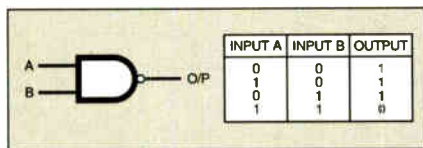

Fig.1.4. NAND gate truth table
The 4011 device is a NAND gate. Its truth table shown in Fig.1.4, from which it will be seen that the output is low (0) only when input A AND input B are both high (1). The output will always be high if either or both inputs are low. It is worth noting that if both inputs are tied together (i.e. input A is always the same as input B) the gate will function as a logic inverter.